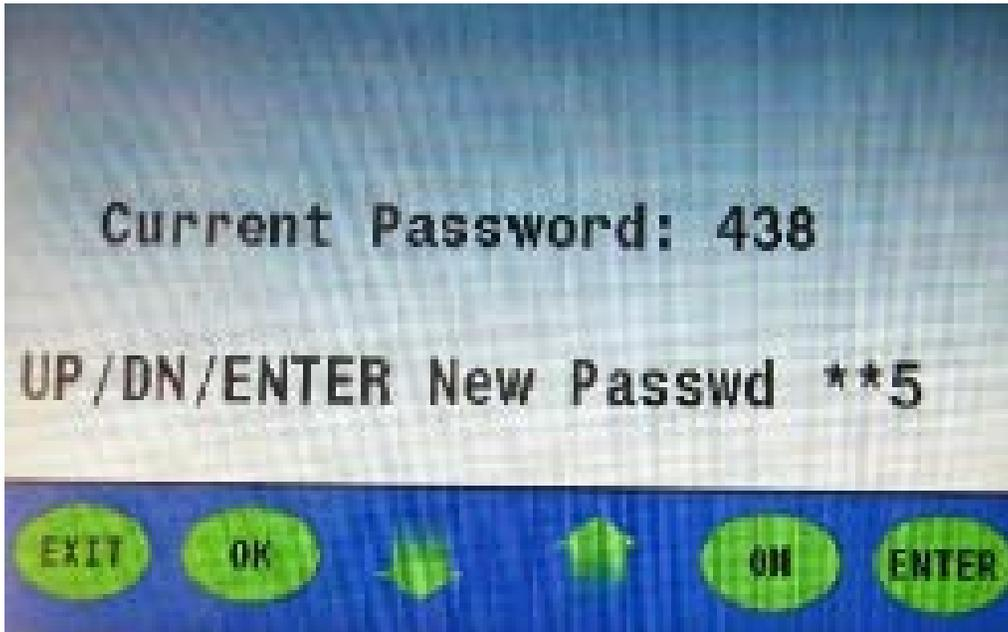

Figure 17
9. Press the **enter button**; a (*) is inputted into the field for the second number. Now, the third digit, the last digit in the password sequence, will begin to blink (**figure 17**).